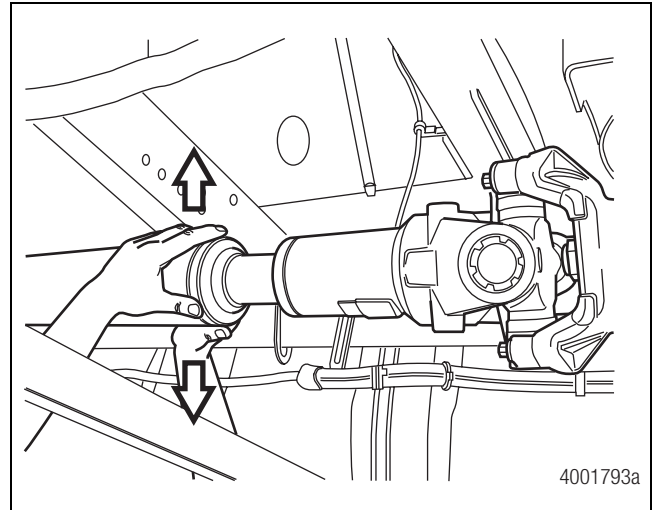

Figure 3.9
4. With your hands near the center of the driveline, move the slip yoke UP-AND-DOWN. Check the dial indicator measurement. Movement between the spline plug and slip yoke must not exceed 0.017-inch (0.432 mm). Figure 3.9.